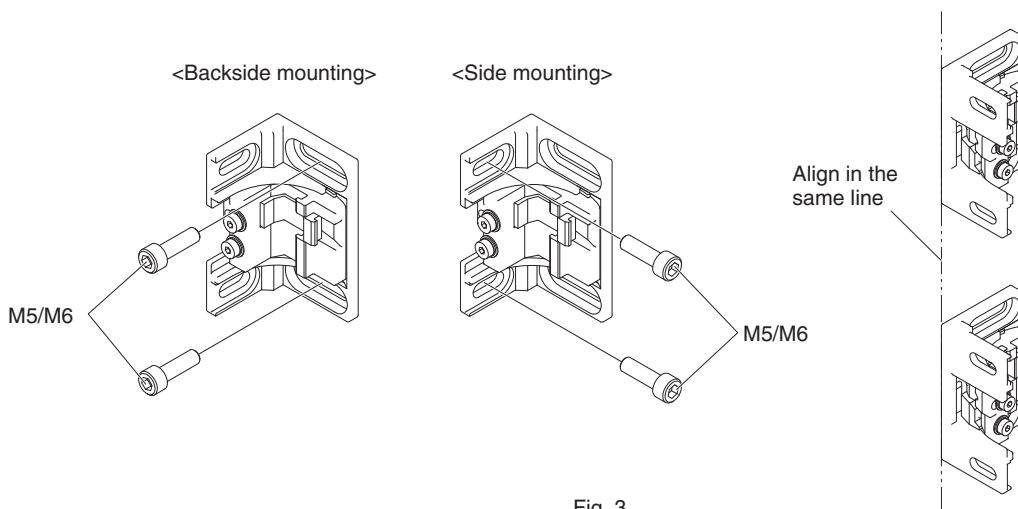

Fig. 3
3. Securely tighten screws to fix the Adjustable Side-Mount Bracket to the mounting position of the wall surface. When using more than one Adjustable Side-Mount Brackets, align them in the same line using the sides of the brackets that do not face the wall, before attaching the brackets to the sensor. (Fig. 3)